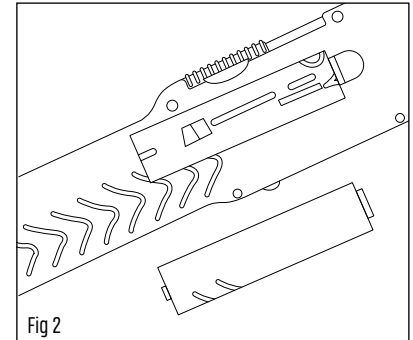

Fig 2
B. To install rechargeable batteries, disconnect the Battery Tray Connector (if connected) from the launcher and attach the connector of the rechargeable battery in its place. (Fig 2)